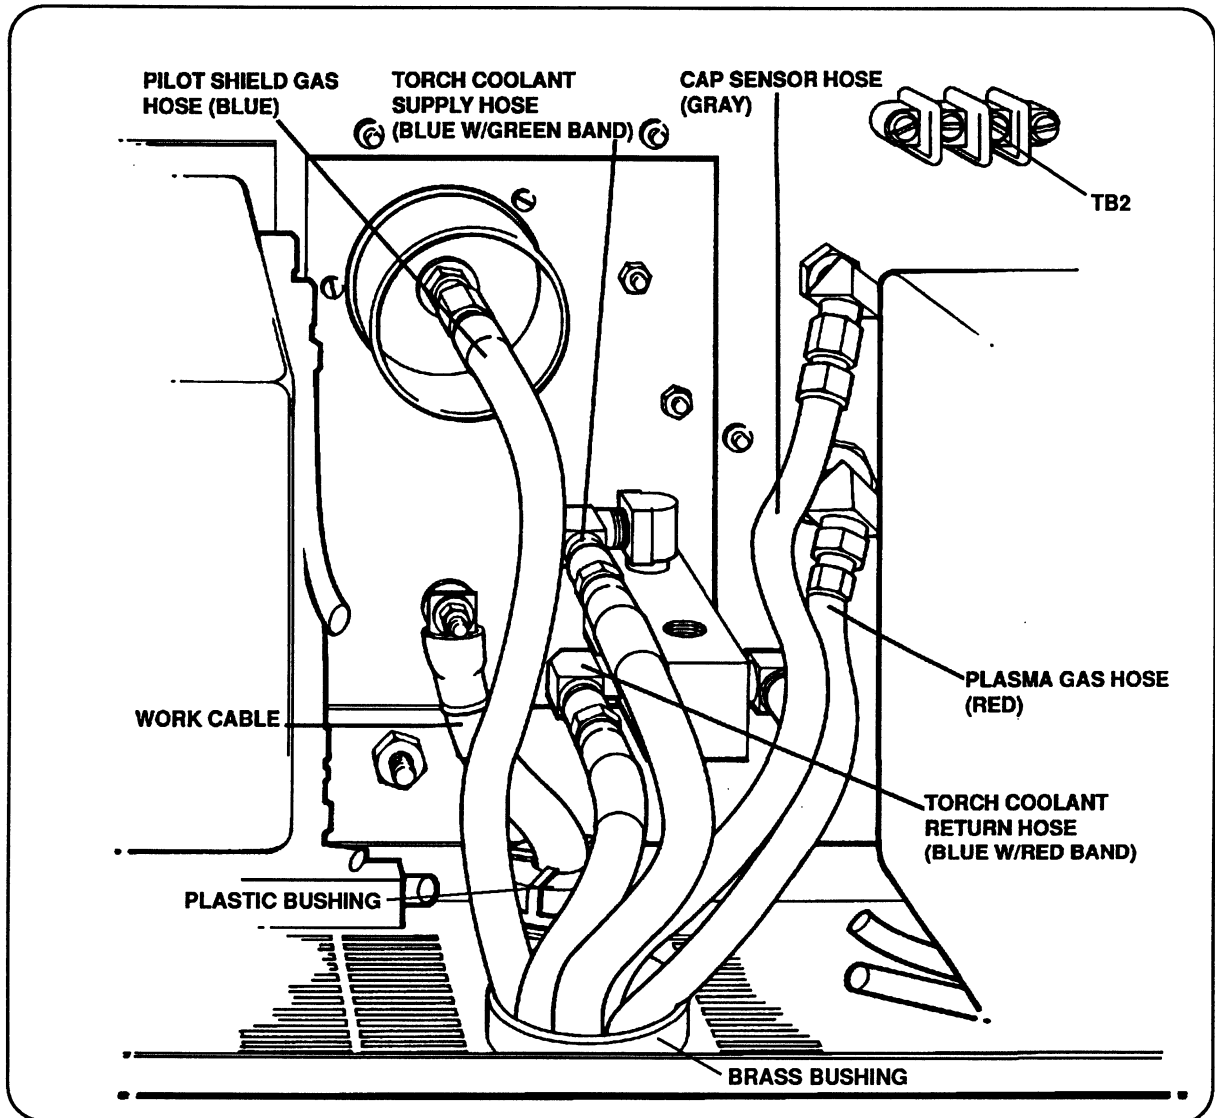

Figure 1 MAX200 Torch Lead and Work Cable Connections
Before removing the old flow switch assembly and solenoid, the torch hoses and the work cable must be removed. See Figure 1 to locate hosing.
Note: Figure 1 is for machine-torch systems. Hand-torch systems have an additional cable connected to the terminal block TB2.
6. Reconnect the torch leads and work cable. Refer to *Retrofit Procedure - Removal*, and Figure 1.